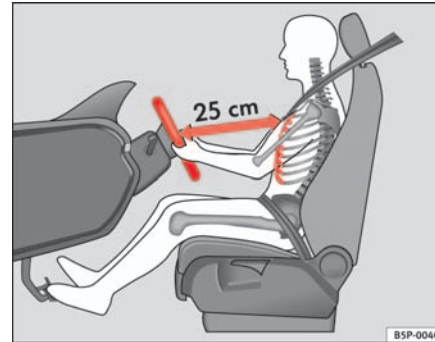

Fig. 90 Proper sitting position for driver
- Adjust the steering wheel in this way until the correct position is set ⇒ fig. 90.
- Adjust the driver seat or steering wheel so that there is a distance of at least 25 cm between the steering wheel and your breast bone ⇒ page 122, fig. 90. If you fail to observe the minimum distance, the airbag will not protect you. Risk of fatal injury.